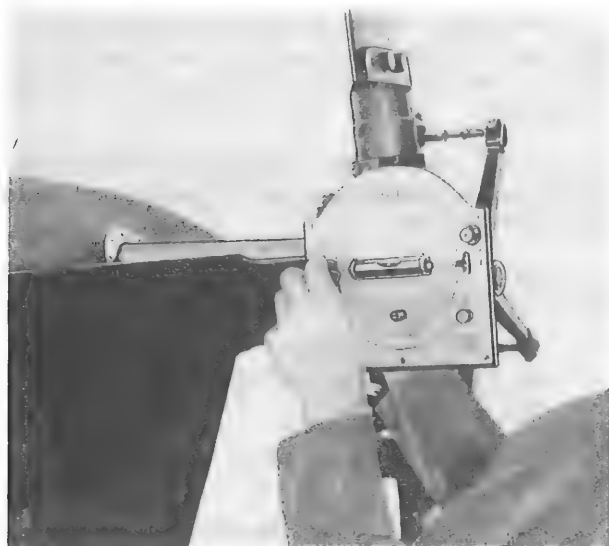

Figure 7-38. Measuring Pitch on Tail Rotor Blade
z. Place protractor, Guardian Electric Mfg. Co. part No. 36-D-2844, on flat of blade sleeve just outboard of two blade attaching bolts. Measure blade angle for a reading of +30 plus 1/2 minus 1 degrees. (See figures 7-38 and 7-39.)
af. Place protractor, Guardian Electric Mfg. Co. part No. 36-D-2844, on flat of blade sleeve just outboard of two blade attaching bolts. Measure blade angle for a reading of -20 plus 1 minus 3 degrees. (See figures 7-38 and 7-39.)